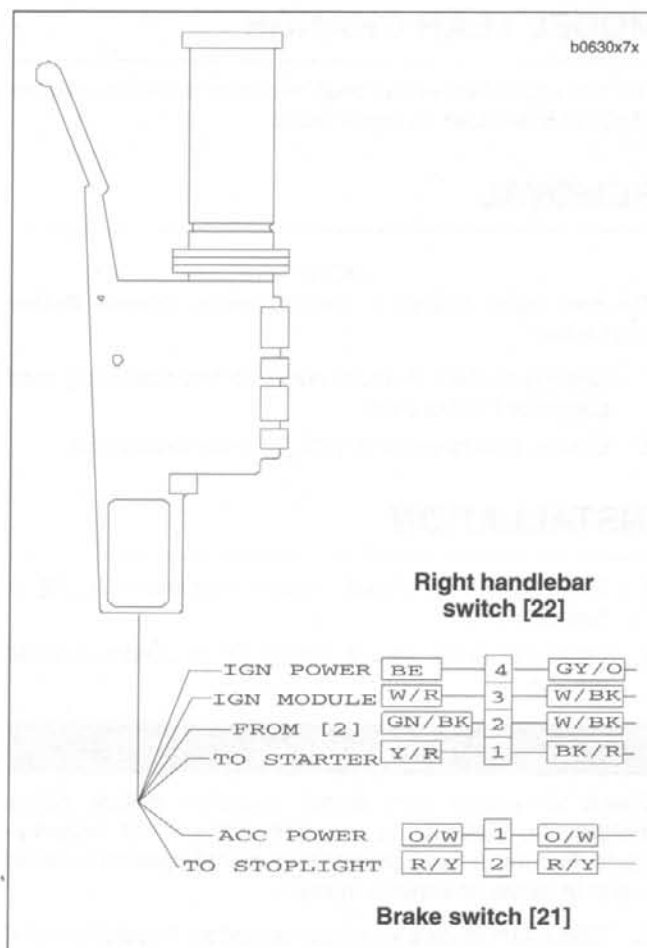

Figure 7-52. Right Handlebar Switch Connection
4. See Figure 7-52. Cut as many cable straps as necessary to access right handlebar switch connector [22] along right side frame tube. Detach connector [22] from wiring harness.